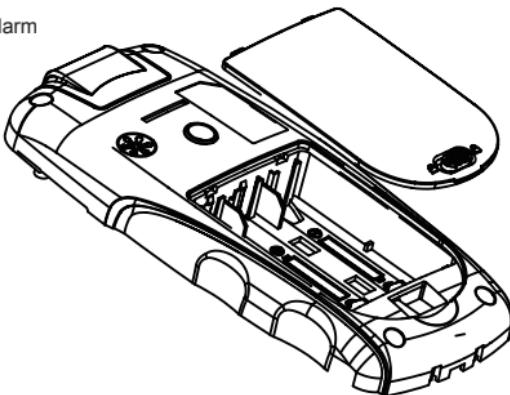

Fig.2.2 Rear Panel
- 2) Batteries installation:** Install 3 AA alkaline batteries or rechargeable batteries lightly as indicated by the polarity signs as shown in Fig.2-2.